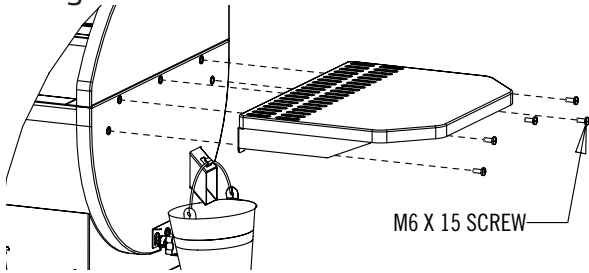

FIG. 7
1. Install shelf as shown in Fig 7.